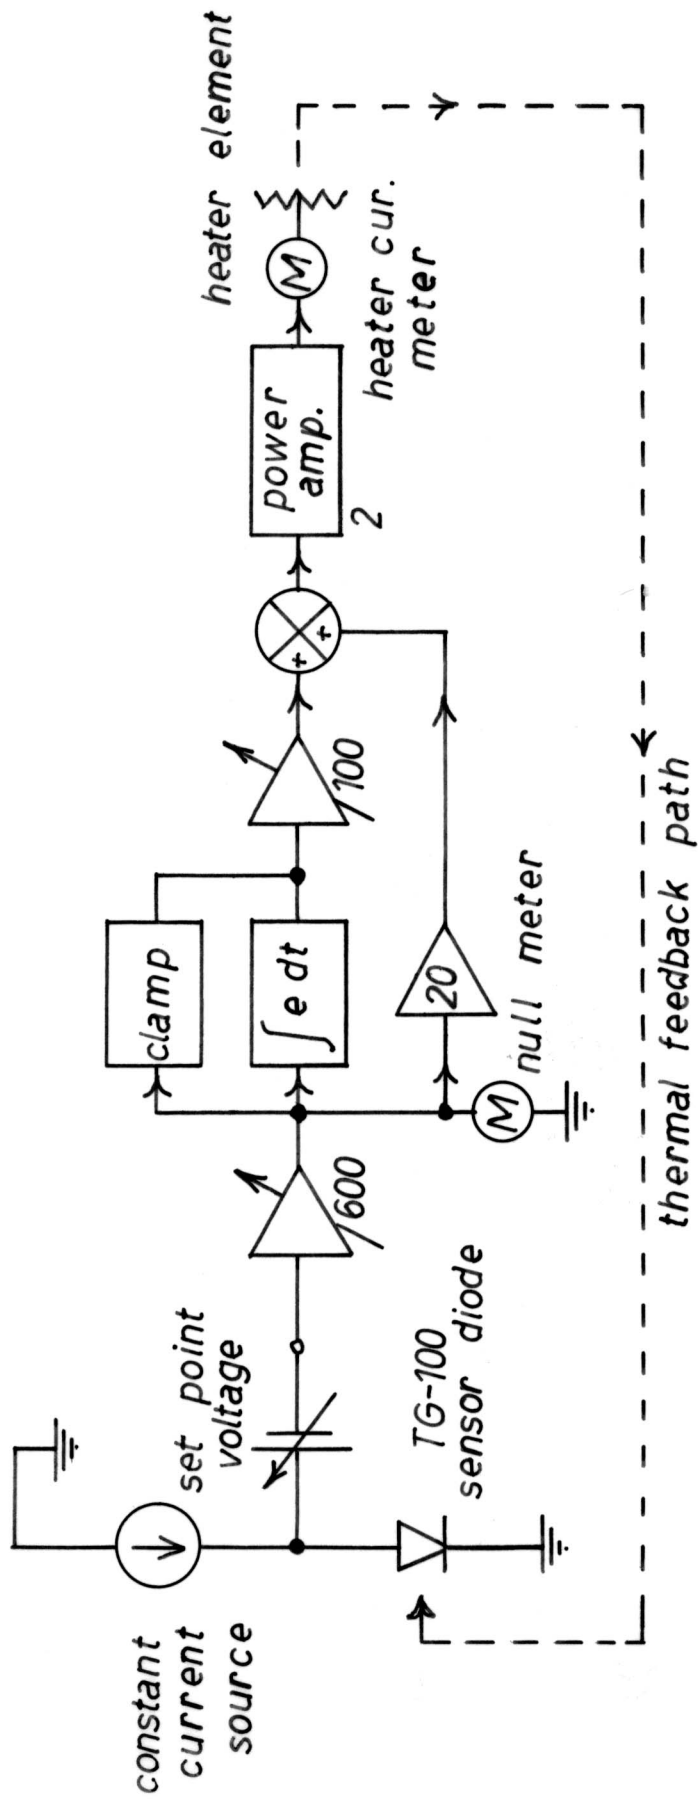

FIG. 3.3 BLOCK DIAGRAM, TGC-100 TEMPERATURE CONTROLLER
Refer to Figure 3.3 and Figure 5.2 as an aid in the following discussion. With reference to Figure 3.3, a precision constant current source causes 10 microamperes of current to flow through the sensor diode. The set point voltage source (or bucking voltage) is subtracted from the diode voltage and the difference (or error) signal is amplified in a variable gain amplifier stage (operational amplifier A2 in Fig. 5.2). The amplified error is displayed on the NULL meter and also applied to (1) a gain of 20 amplifier, (2) an integrator circuit and (3) a bound or clamping circuit. The bounding circuit disables the integrator for large errors. The output of the integrator is amplified by a variable gain amplifier whose gain is set by the AUTO RESET potentiometer. The gain range is from 1 to 100. The integrator, bounding circuit, post integrator variable gain amplifier and constant gain of 20 amplifier are associated with operational amplifier A3, transistor Q1 and field effect transistor Q2 in Figure 5.2. The processed error signal drives the output power amplifier circuit whose voltage gain is 2. Operational amplifier A4 and transistors Q3 and Q4 in Fig. 5.2 comprise the power amplifier. The output of the power amplifier is metered by the HEATER CURRENT indicator and passed to the heater element. Closed looped control action is achieved by providing a thermal signal path between the heater element and the temperature sensing diode.
The variable gain amplifier shown in Fig. 3.3, with a gain range of 7.5 to 750, is realized by chopper-stabilized operational amplifier A2. The input resistor is R32 and the feedback element consists of R35 and potentiometer R37 and resistors R39, R40 and R41.
The bound circuit, integrator, variable gain amplifier (A_v of 1 to 100), and the constant gain of 20 amplifier shown in Fig. 3.3 are realized by operational amplifier A3, bipolar transistor Q1 and field effect transistor Q2 in Fig. 5.2. A simplified equivalent circuit of the stage is given in Fig. 4.2.
Application of the principle that the summing junction currents must add to zero yields the overall transfer function of the stage. The constant gain of 20 amplifier in Fig. 3.3 is represented by the term R_{57}/R_{45} while the variable gain amplifier following the ideal integrator is represented by the term $(1 + R_{57}/R_e)/R_{45}C_{20}$ in the equation in Fig. 4.2.